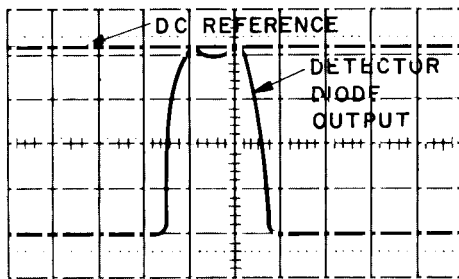

Figure 3-3. Pulse Measurement
- 3-16. Using the COARSE and FINE controls, adjust the dc reference voltage until the adjustable horizontal line coincides with the peak of the pulse as displayed on the oscilloscope (See Fig. 3-3).